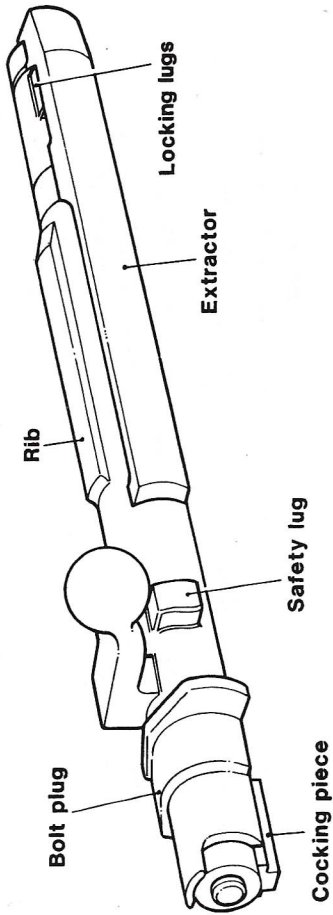

FIG. 5. BOLT
- 3.5 BOLT (Fig 5) The Mauser-type bolt is machined to locate and lock into the guideways and stops in the body.